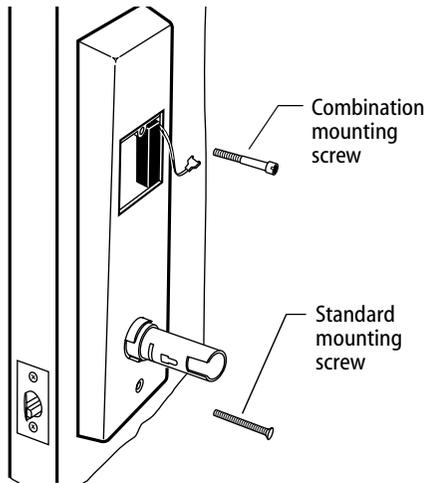

Figure 11
- Tighten the trim mounting screws (see Figure 11).